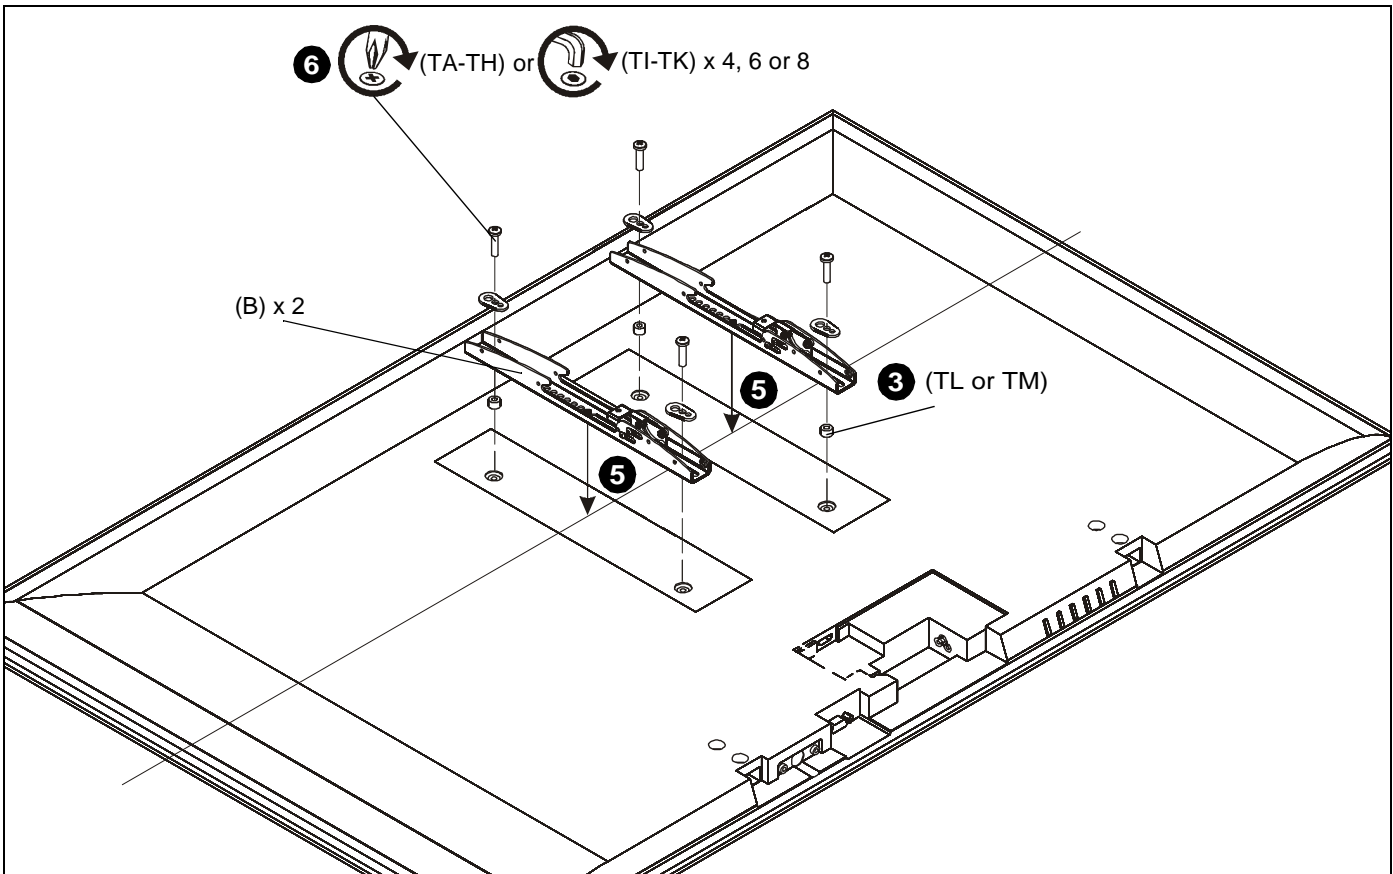

Figure 7
2. Select screw *diameter* by examining hardware (TA-TK) (4mm, 5mm, 6mm or 8mm) and comparing with mounting holes on display. (See Figure 7)
3. Select spacers: (See Figure 7)
- If mounting holes are not recessed and both uprights (B) can lay flat against display, then no spacers are required.
- If mounting holes are recessed, or if protrusions prevent uprights (B) from laying flat, then spacers (TL or TM) must be used.
4. Select screw *length*: (See Figure 7)
- Using your hand, insert **SHORTEST** length screw of selected diameter (TA, TD, TG or TI) through universal washer (TN), uprights (B), selected spacer (TL or TM), into display mounting hole. Do **NOT** thread screw into hole at this time.
**NOTE:** Universal washers (TN) are not needed if using M8 button head cap screws (TI, TJ or TK).
5. Place uprights (B) on display, ensuring: (See Figure 7)
- Center of uprights (B) are as close to the center of the back of display as possible after being installed. Center of bracket is indicated by the diamond-shaped hole.
6. Use selected screws and spacers to install two interface uprights (B) to back of display. (See Figure 7)